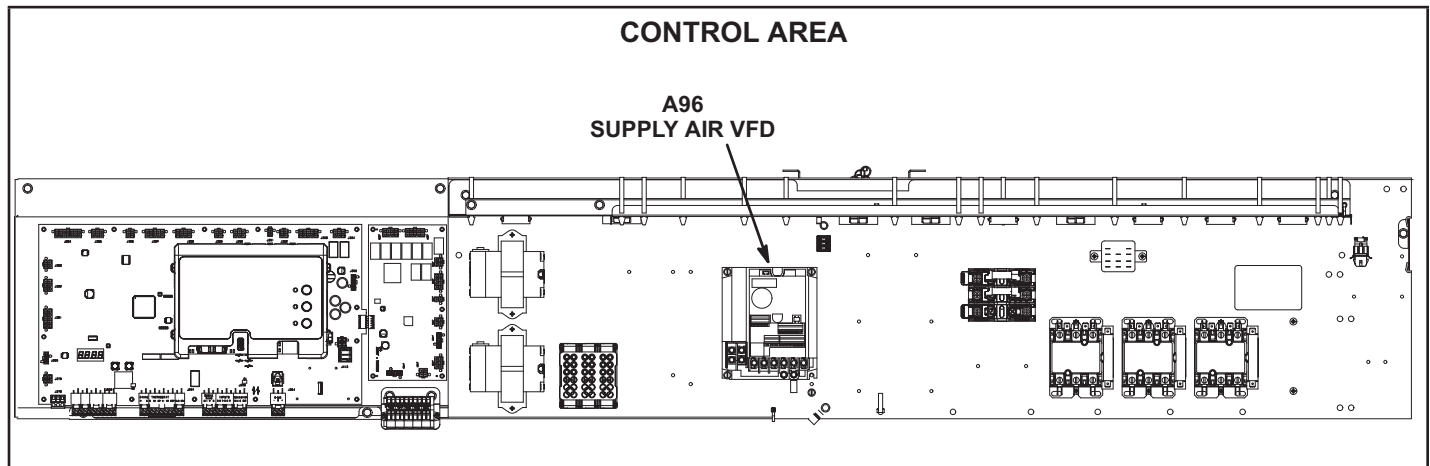

FIGURE 26
Units contain a supply air blower equipped with a variable frequency drive A96 (VFD) which varies supply air CFM. The supply air VFD (A96) is located in the control area. See figure 26.
- 4 - Locate the A55 Unit Controller. Refer to figure 26.